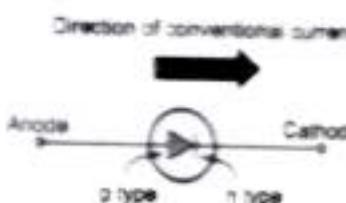

Fig. Q.18.1 Symbol of a diode
- Its symbol is shown in the Fig. Q.18.1. The arrowhead in the symbol indicates the direction of the conventional current which can flow when an external voltage is applied in a specific manner across the diode.